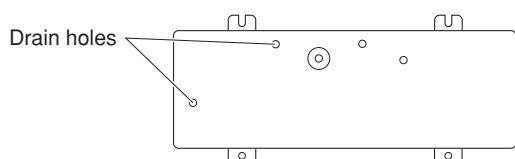

Fig. 5a
- provide a solid base (level concrete pad, concrete block, 4" x 1'4" (10 x 40 cm) beams or equal), a minimum of 4" (10 cm) above ground level to reduce humidity and protect the unit against possible water damage and decreased service life. (Figs. 5a and 5b)